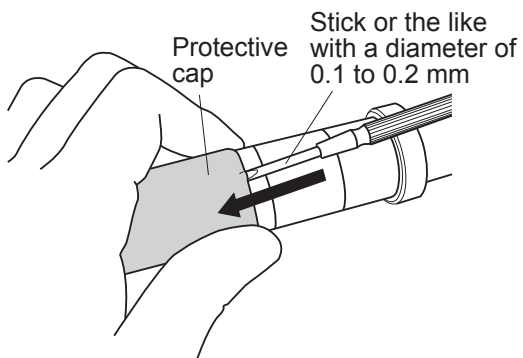

Figure 4 Insert a stick or the like between the DO30G
- (1) As shown in the figure 4, insert a stick or the like between the DO30G and protective cap. Be careful not to damage the DO30G main body.